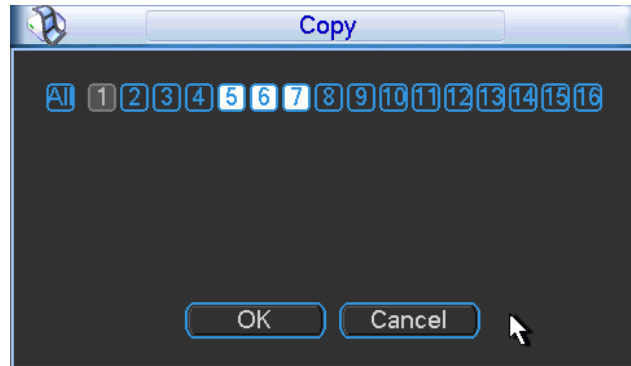

Figure 3-26
1. After making your selections on the first channel, click the **Copy** button. The Copy dialog opens, as shown in Figure 3-26.